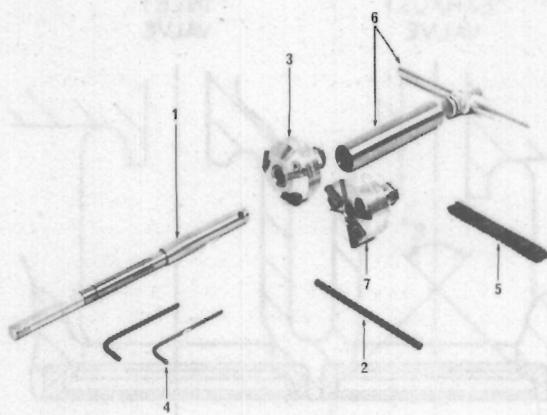

Fig..E6
| Position the appropriate sized pilot (1, Fig. E6) in the | valve guide with the expandable section of the pilot | inside the guide and the shoulder of the pilot approxi- | mately 1/8 in (3 mm) above the guide. Tighten the | pilot in the guide using the knurled nut with the puller | pin (2) in the pilot hole. Select the appropriate cutter | (3), adjust the blades to approximately the same | locations in their slots and tighten the blade screws, | finger tight only, using the small key (4). Clean the | blades with the brush (5) before using the cutter.